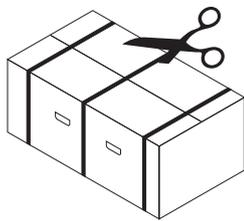

Fig. 39
a) Remove the outer packaging and literature, and stand the boiler and inner packaging upright. Remove the base tray (Figs. 39, 40 & 41).
Method 1 - (Fig. 39 to 42)